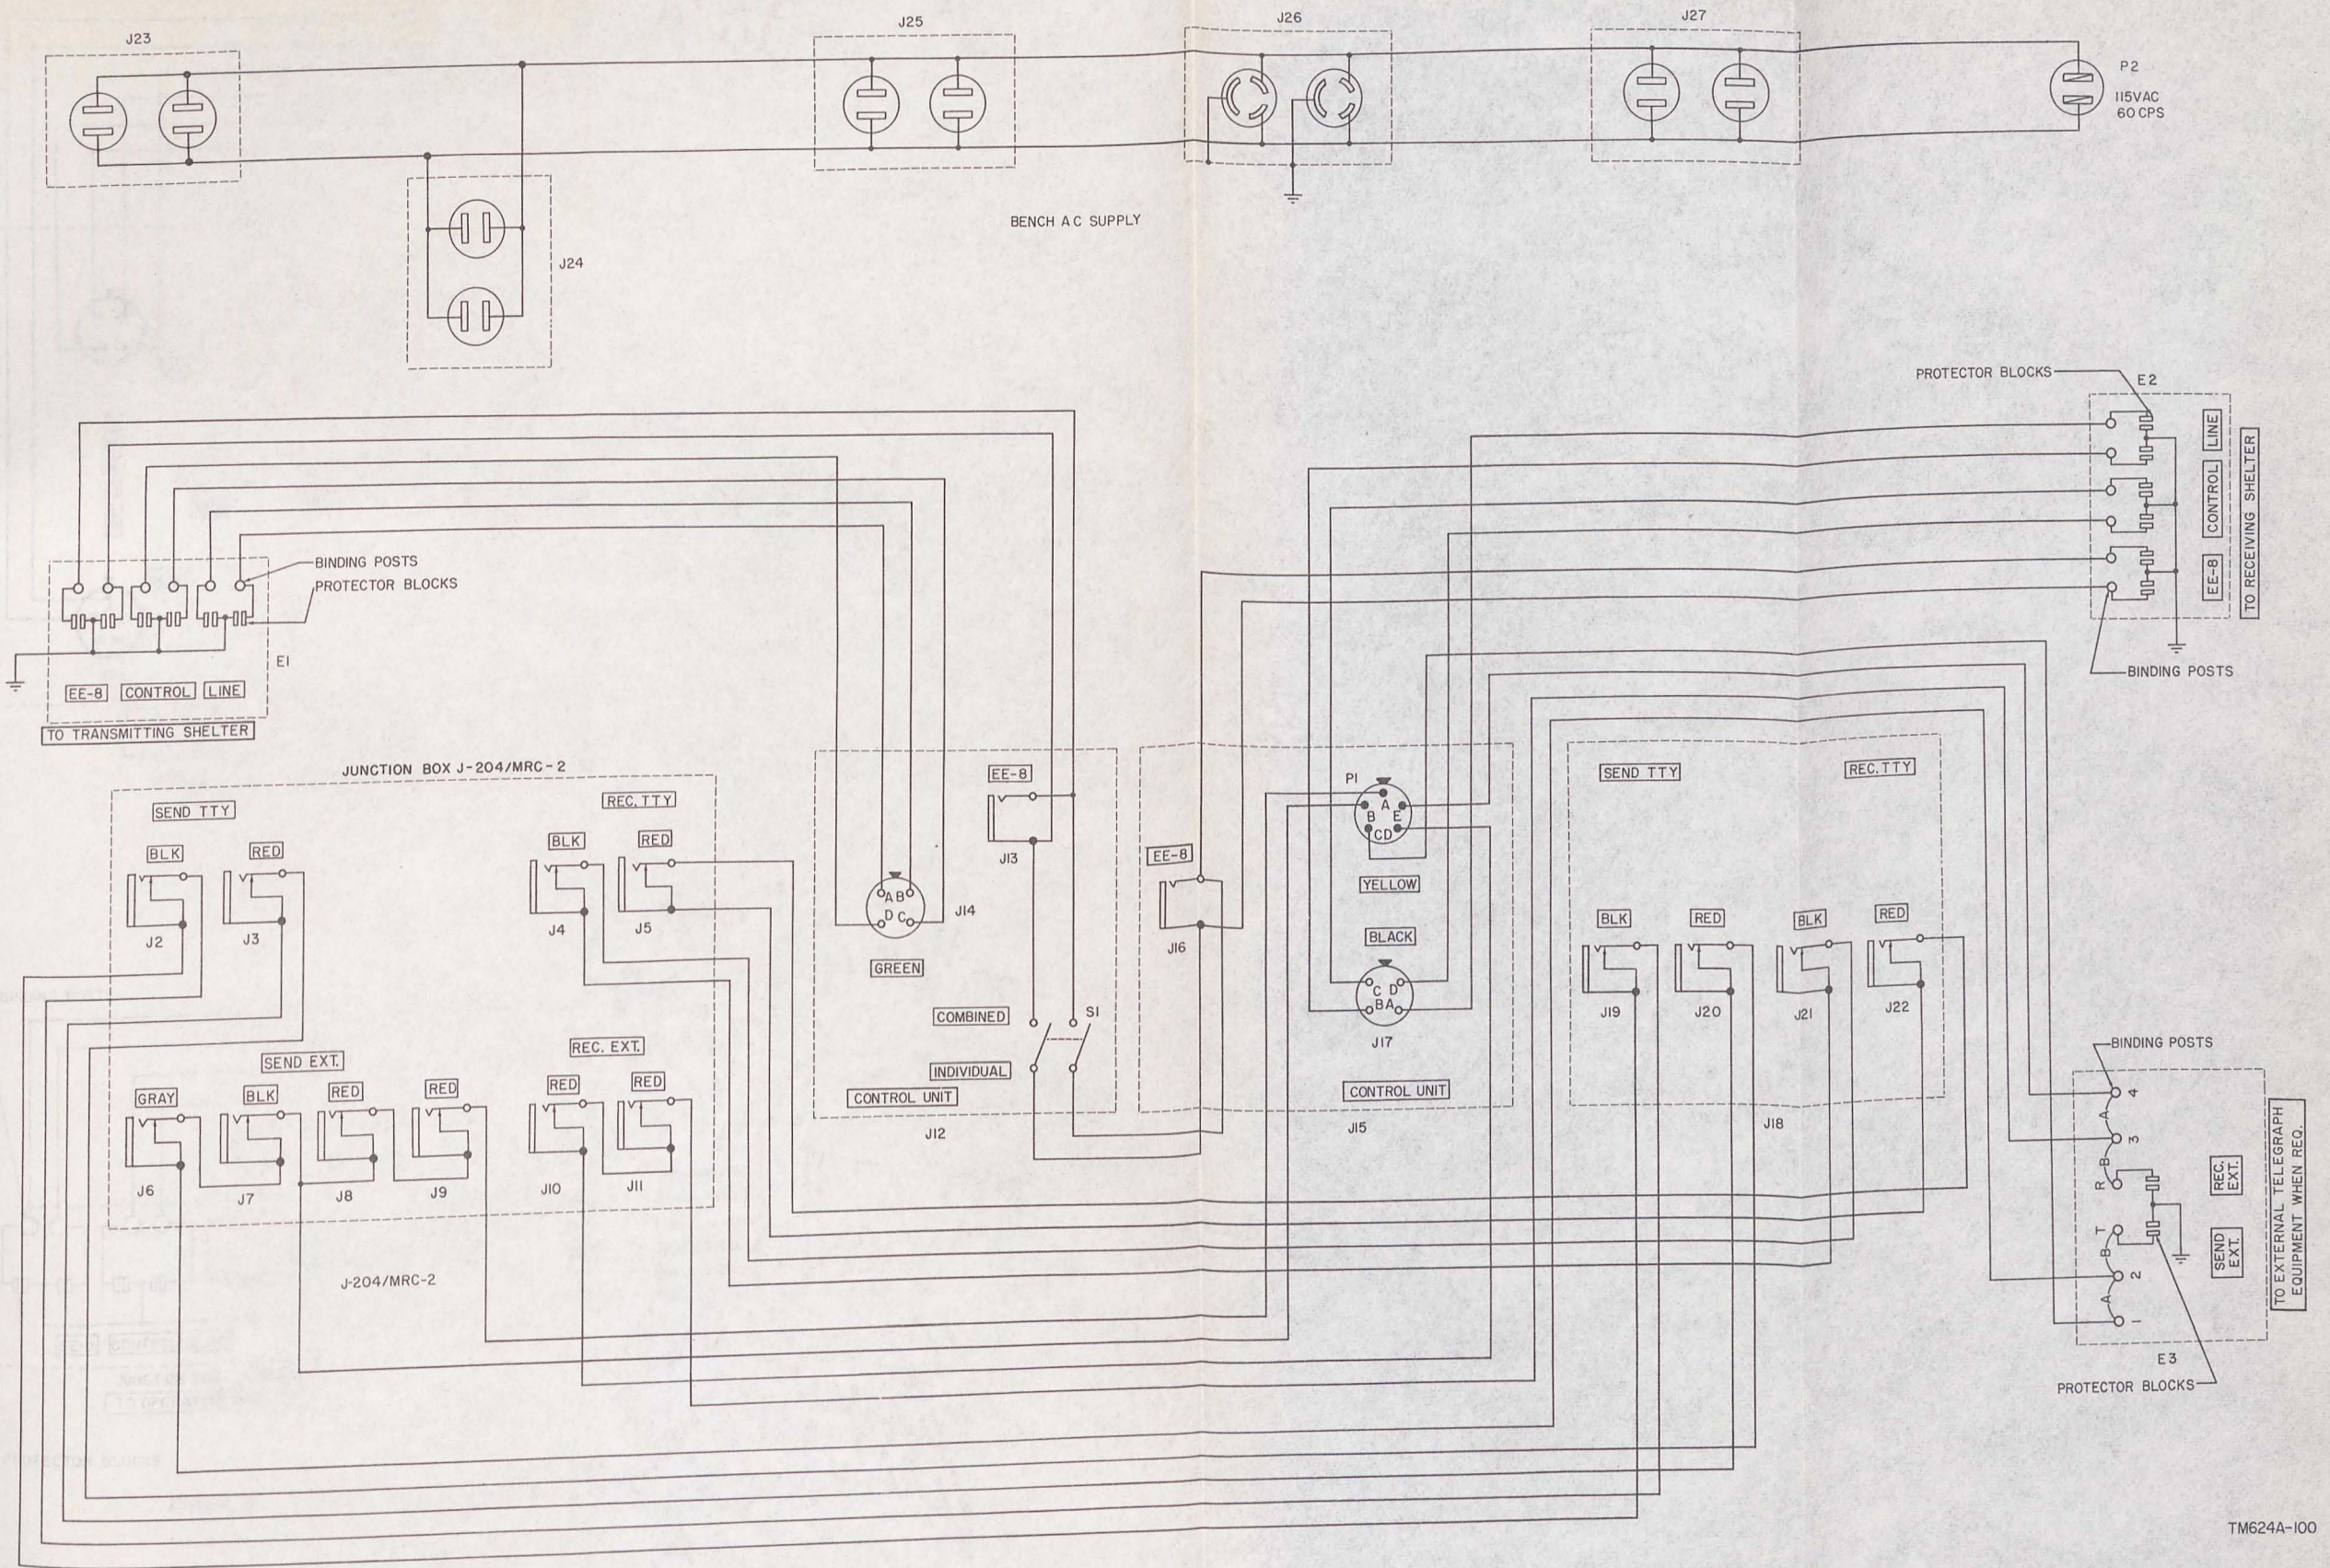

Figure 77. Operating Table FN-22/MRC-2 in operating shelter, schematic diagram.
*b. Operating Table FN-22/MRC-2. (fig. 77)—Continued*